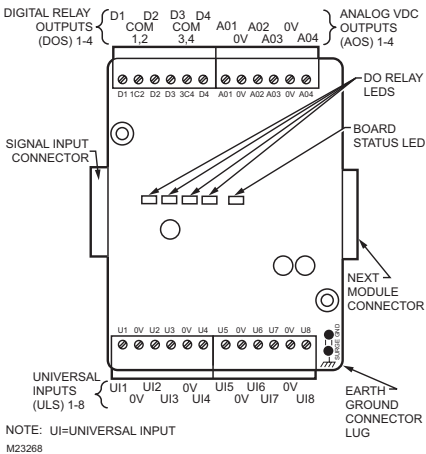

Fig. 3. WEB-IO-16 Wiring terminal locations.
The WEB-IO-16 module provides 8 universal inputs supporting analog inputs (temperature, resistance, voltage and current) and digital inputs (contact closure, pulse count) and 8 outputs: 4 relay (24 Vac/cd, 0.5A max.) outputs and 4 analog outputs (0-10 Vdc). Wiring terminal positions are shown in Fig. 3, along with LED locations.
See Fig. 3 to locate connectors and other components on the controller.
An LED status indicator for each relay (D1-D4) is located on the board (See Fig. 3), and also visible through the cover. Under normal operation, each digital status LED indicates activity as follows:
NOTE: Any time a powered WEB-IO module's status LED is not lit, all outputs are in "failsafe" state (all relay outputs **Off**, and all AOs are at a 0-volt level). See Fig. 3 for location of the WEB-IO-16 status LED.
Step 1	Apply power to the WEB-201 controller (e.g., WEB-NPB-PWR or NPB-WPM-US). The WEB-IO-16 board status LED will initially be Off (Fig 3). Allow the controller sufficient time to boot (at least 2 minutes).